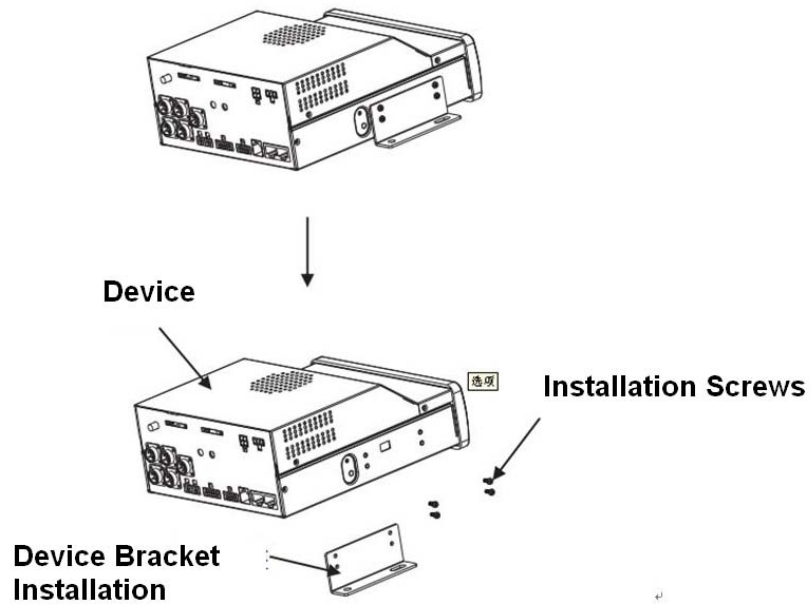

Figure 2-7
Step 1: Remove bracket from one side of the device. See Figure 2-7.